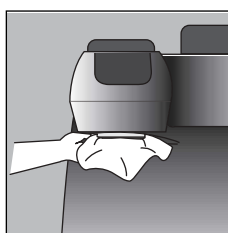

fig. 21
- clean the boiler with a damp cloth (fig. 21);